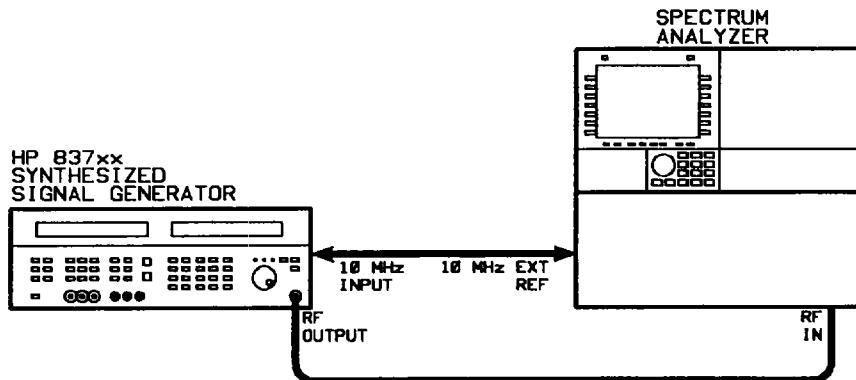

Figure 3-27. Internal FM Source Verification Test Setup
1. Connect the equipment as shown in Figure 3-27.